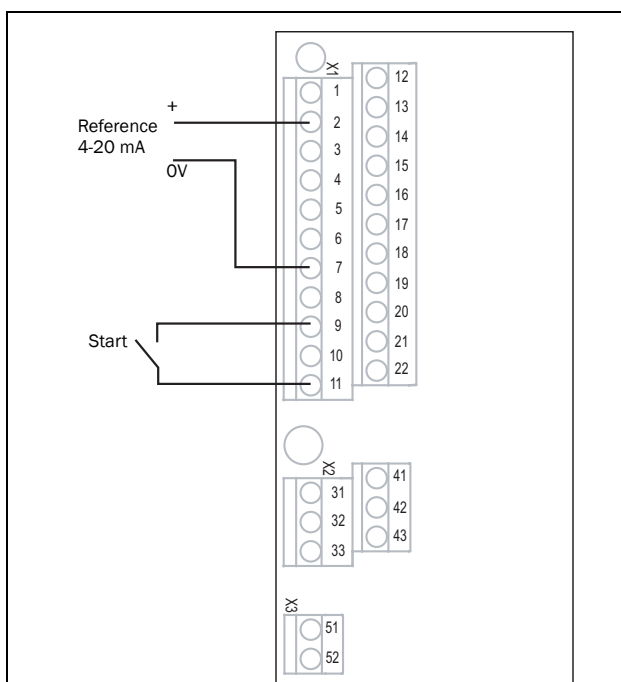

Fig. 21 Wiring
1. Connect a reference value between terminals 7 (Common) and 2 (AnIn 1) as in Fig. 21.
2. Connect an external start button between terminal 11 (+24 VDC) and 9 (DigIn2, RUNR) as in Fig. 21.